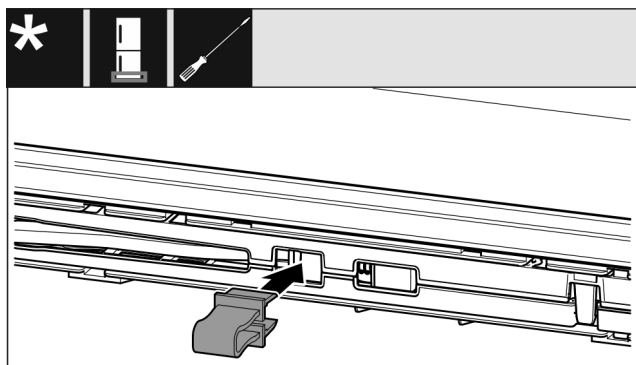

Fig. 14
- Latch safeguard into opening. (see Fig. 14)